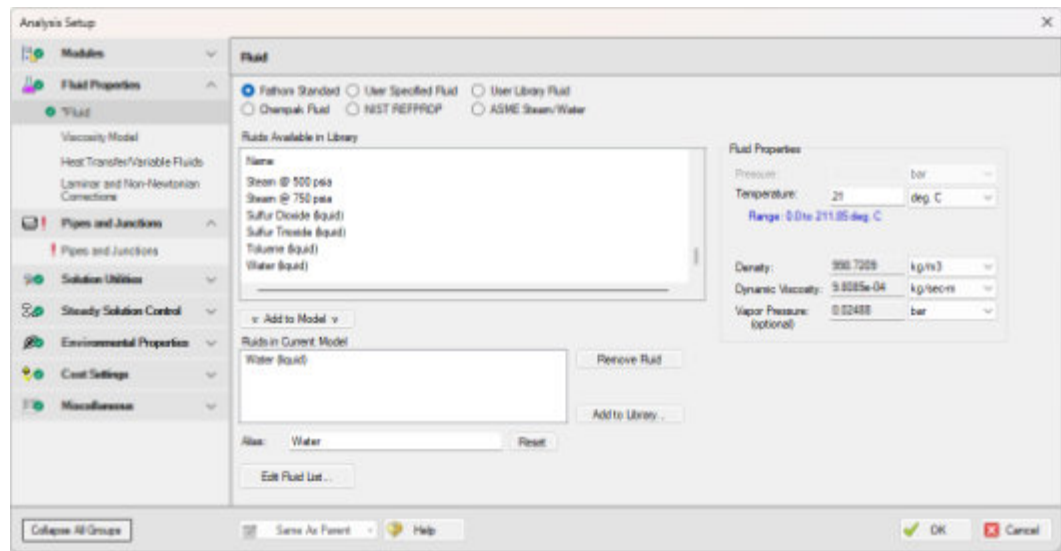

Figure 5.1 Fluid panel with Water (liquid) selected and temperature specified
3. On the right, enter a temperature of 21 deg. C (see Figure 5.1)